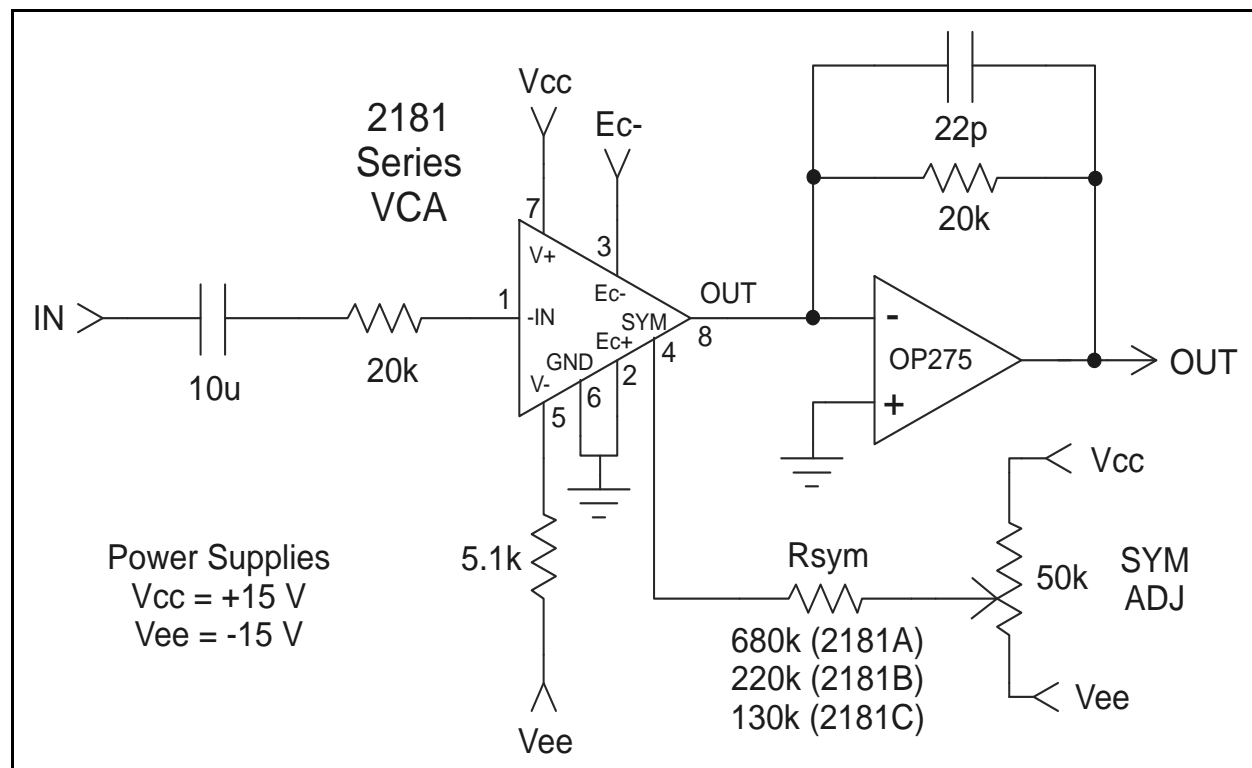
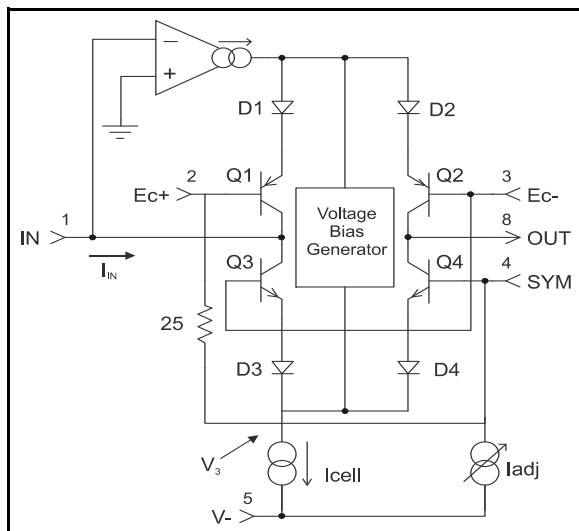
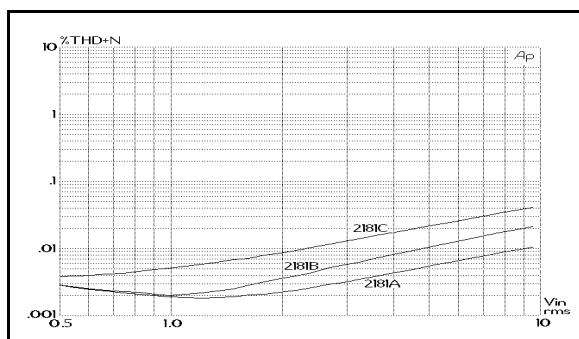
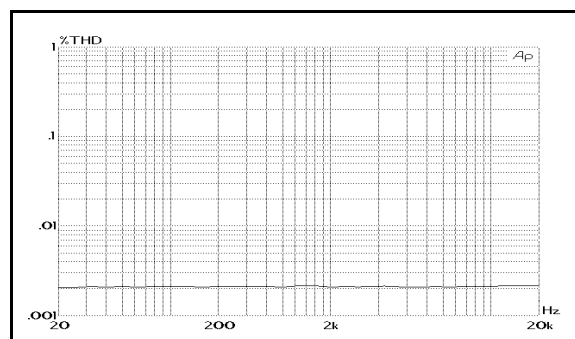

Figure 2. Typical Application Circuit
Figure 5. Simplified Internal Circuit Diagram
Figure 10. 1 kHz THD+Noise vs. Input Level, 0dB Gain
Figure 13. 2181A THD+N vs Frequency, 0dB gain 1kHz 1V
2. Unless otherwise noted, $T_A = 25^\circ\text{C}$, $V_{CC} = +15\text{V}$, $V_{EE} = -15\text{V}$. Test circuit as shown in Figure 2. SYM ADJ is adjusted for minimum THD at 1 V, 1 kHz, $E_{C-} = -E_{C+} = 0$ V.
Figure 5 presents a considerably simplified internal circuit diagram of the IC. The ac input signal current flows in pin 1, the input pin. An internal operational transconductance amplifier (OTA) works to maintain pin 1 at a virtual ground potential by driving the emitters of Q1 and (through the Voltage Bias Generator) Q3. Q3/D3 and Q1/D1 act to log the input current, producing a voltage, V₃, which represents the bipolar logarithm of the input current. (The voltage at the junction of D1 and D2 is the same as V₃, but shifted by four forward V_{be} drops.)
In normal operation, the output current is converted to a voltage via an opamp-based I-V converter, as shown in Figure 2, where the conversion ratio is determined by the feedback resistor connected between the output and inverting input. The signal path through the VCA and the output opamp is non-inverting.
The 2181 current consumption is determined by the resistor between pin 5 (V-) and the negative supply voltage (V_{EE}). Typically, with 15V supplies, the resistor is 5.1 kΩ, which provides approximately 2.4 mA. This current is split into two paths: 570 μA is used for biasing the IC, and the remainder becomes I_{CELL} as shown in Figure 5. I_{CELL} is further
The 2181-Series VCAs are intended to be adjusted for minimum distortion by applying a small variable offset voltage to pin 4, the SYM pin. Note that there is a 25 Ω resistor internal to the 2181 between pin 4 and pin 2. As shown in Figure 2, Page 3, the usual method of applying this offset is to use the internal 25 Ω resistor along with a larger value resistor to form a voltage divider connected to the wiper of a trim pot across the supply rails.
The 2181-Series VCA design, fabrication and testing ensure extremely good audio performance when used as recommended. The 2181 maintains low distortion over a wide range of gain, cut and signal levels. Figures 10 through 12 show typical distortion performance for representative samples of each grade of the part. At or near unity gain, the 2181 behaves much like a good opamp, with low distortion over the entire audio band. Figure 13 shows typical THD for a 2181A over frequency at 0 dB gain, with a 1 V input signal, while Figure 14 details the harmonic content of the distortion in a typical A-grade part.
The Input pin (pin 1) is a virtual ground with negative feedback provided internally (see Figure 5, Page 4). The input resistor (shown as 20 kΩ in Figure 2, Page 3) should be scaled to convert the available ac input voltage to a current within the linear range of the device. Generally, peak input currents should be kept under 1 mA for best distortion performance.
Refer to Figures 10 through 12 to see how distortion varies with signal level for the three parts in the 2181 Series for 0 dB, +15 dB and -15 dB gain. The circuit of Figure 2, Page 3 was used to generate these curves.
A designer may trade off noise for distortion by decreasing the 20 kΩ current-to-voltage converting resistors used at the input and output in Figure 2, Page 3. For every dB these resistor values are decreased, the voltage noise at the output of the OP275 is reduced by one dB. For example, with 10 kΩ resistors, the output noise floor drops to -104 dBV (typical) at 0 dB gain — a 6 dB reduction in noise because 10 kΩ is 1/2 of (6 dB lower than) 20 kΩ.
The Output pin (pin 8) is intended to be connected to a virtual ground node, so that current flowing in it may be converted to a voltage (see Figures 2 & 15). Choose the external opamp for good audio performance. The feedback resistor should be chosen based on the desired current-to-voltage conversion constant. Since the input resistor determines the voltage-to-current conversion at the input,
The SYM pin (pin 4) is actually a sort of additional positive-sense control port. It is provided to allow V_{be} mismatches in the core transistors to be adjusted after packaging and installation in the circuit board. It should only be used for this purpose. Connect pin 4 only to a high-impedance source as shown in Figures 2 and 15.